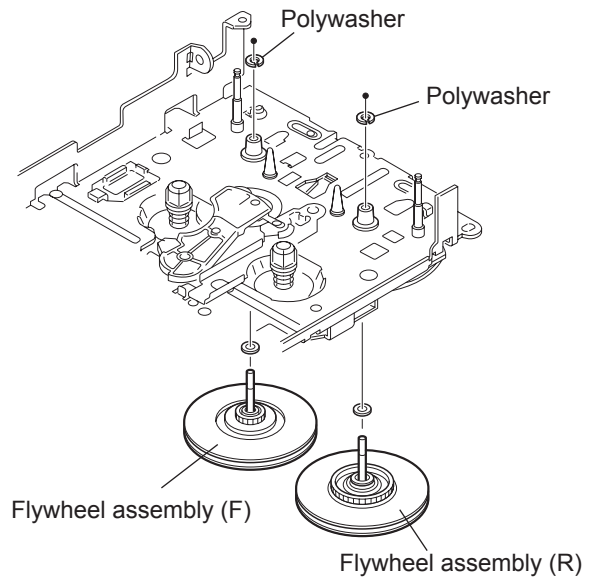

Fig.18
2.2.9 Removing the flywheel assembly (F) & (R) (See Fig.18 and 19)